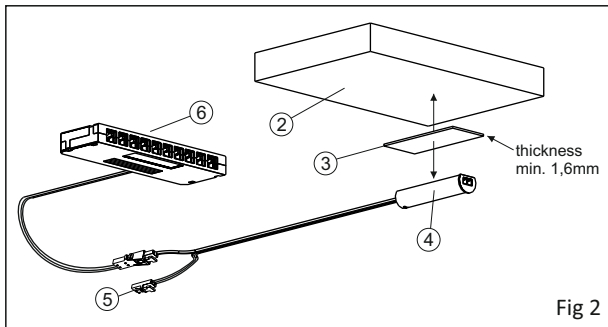

Fig 2
- The **IR-SENSOR** can be affixed projecting (fig. 2) from the installation surface (2), by simply applying the double-sided adhesive tape (3) in the desired position (first ensuring that the surface is clean) and then attaching the sensor (4) to the adhesive tape.